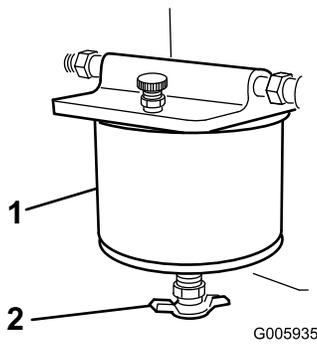

Figure 13
3. Turn the drain valve until the water runs out of the filter (Figure 13).